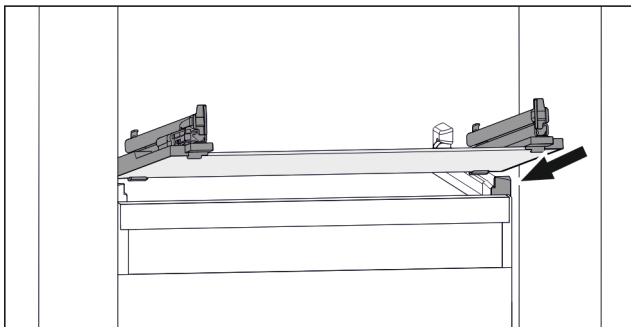

Fig. 161 Example illustration of glass shelf
- ▶ Position glass shelf at an angle behind the stoppers. (see Fig. 161)